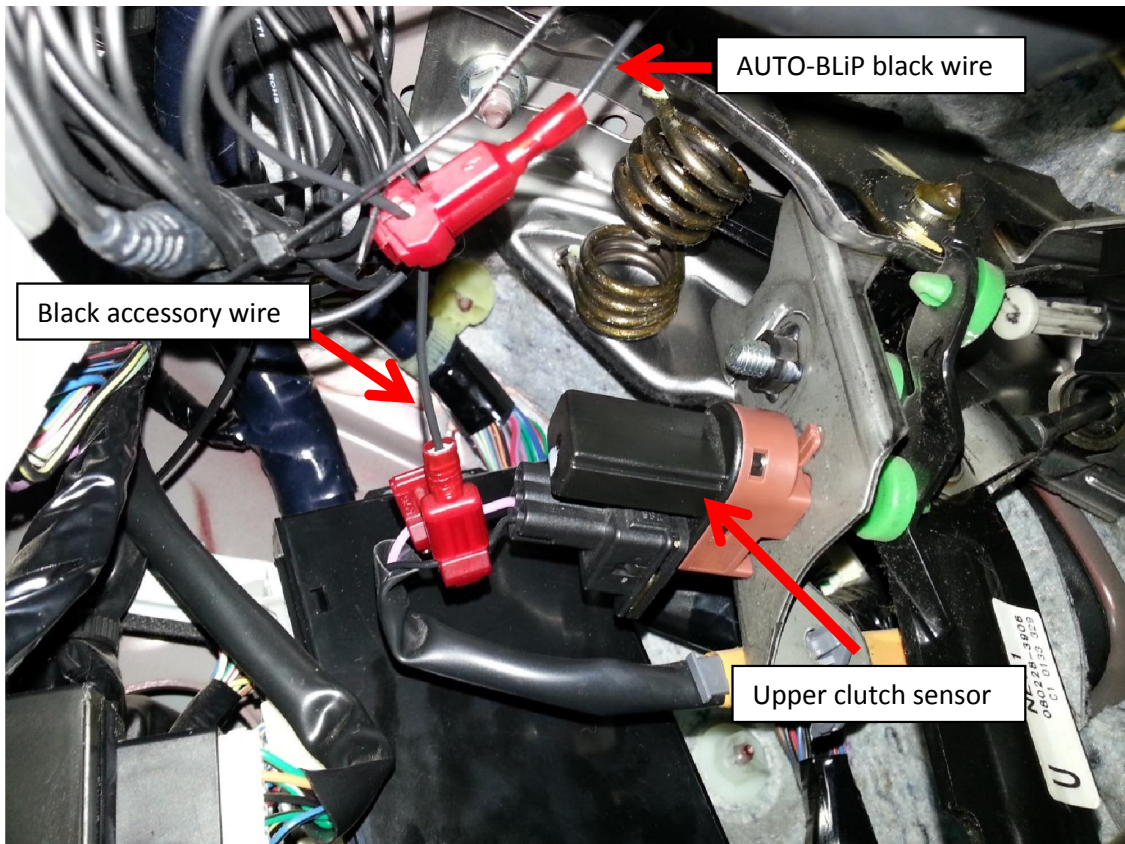

Figure 6 (Upper Clutch Sensor wiretap placement)
7. Connect *AUTO-BLiP* **black** wire to the Posi-tap on the provided black accessory wire (**Figure 6**).